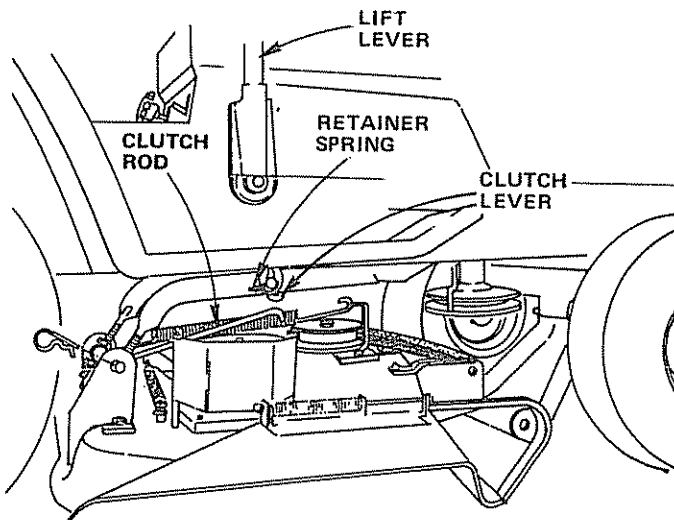
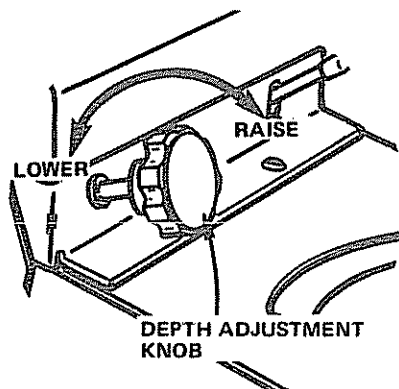
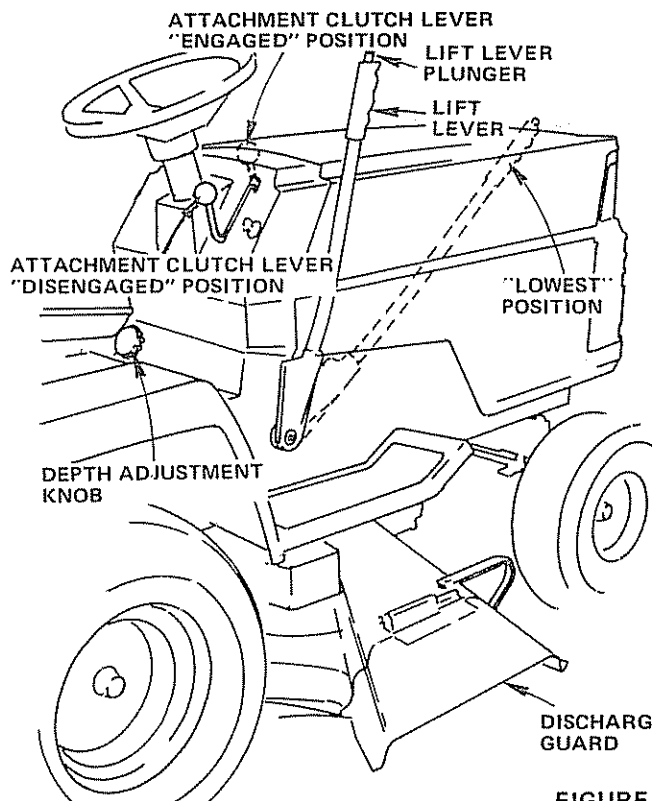

FIGURE 12
FIGURE 19
FIGURE 20
Your 44" Mower installs without the use of tools, Raise Lift Lever (Fig. 12) to its highest position, Turn Depth Adjustment Knob to lowest position (Fig. 19).
Adjustment for mower height is made with the Depth Adjustment Knob. Raise Mower cutting height by turning Depth Adjustment Knob clockwise (↻). Lower Mower cutting height by turning Depth Adjustment Knob counterclockwise (↺) (Fig. 19).
1. Place Attachment Clutch Lever in "DISENGAGED" position (Fig 20).
5. Use Lift Lever to lower mower into cutting position. Start mowing in the first gear and increase ground speed as conditions will permit. Average cutting height is approximately 2 - 1/2 to 2 - 3/4 inches. Height of cut can be adjusted by means of the Depth Adjustment Knob (Fig 20). Moving the Knob clockwise (↻) raises the mower (Fig 19). Moving the Knob counterclockwise (↺) lowers the mower.